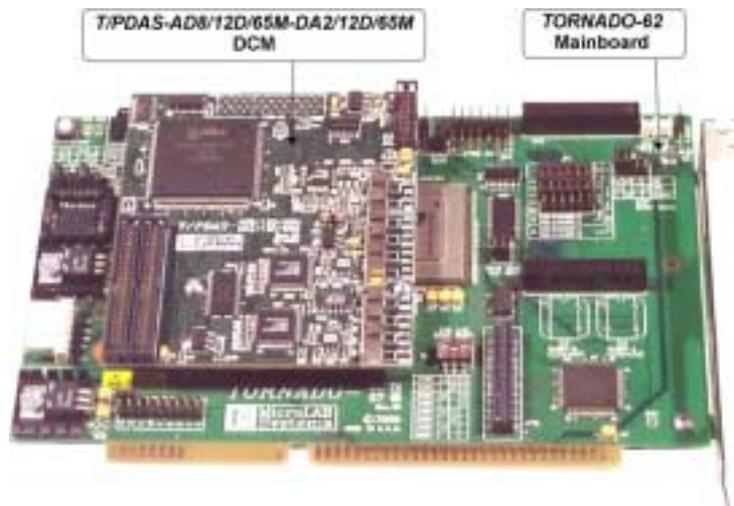

Fig. 1-2. T/PDAS-AD8/12D/65M-DA2/12D/65M DCM installed onto TORNADO-31 mainboard.
*T/PDAS-AD8/12D/65M-DA2/12D/65M* DCM installs as PIOX-16 DCM (fig.1-2) into the PIOX-16 site onto *TORNADO* DSP system/controller mainboard.